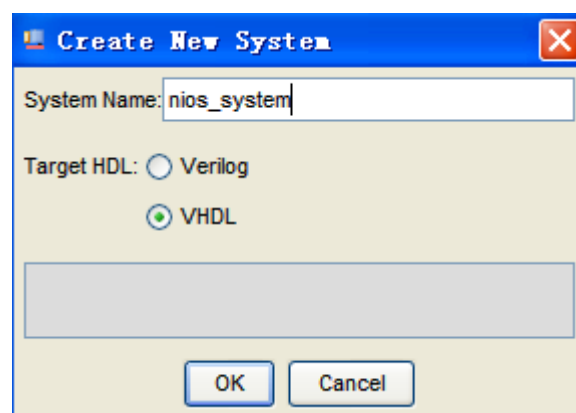
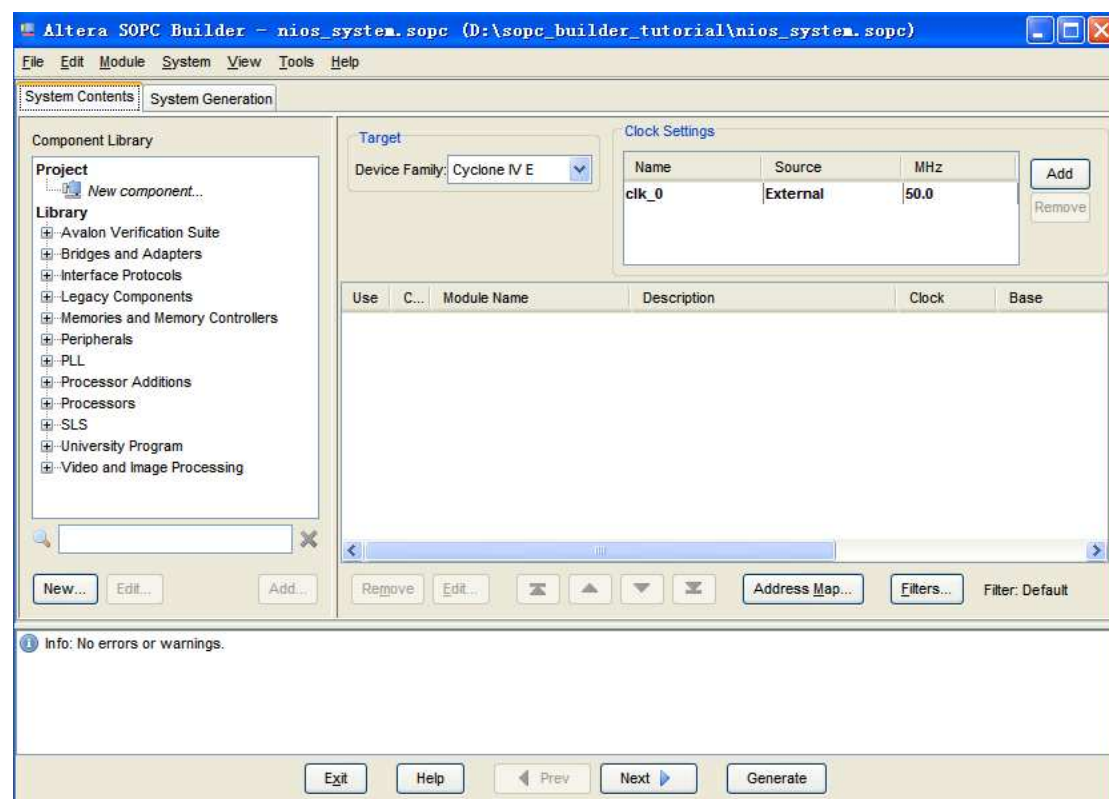
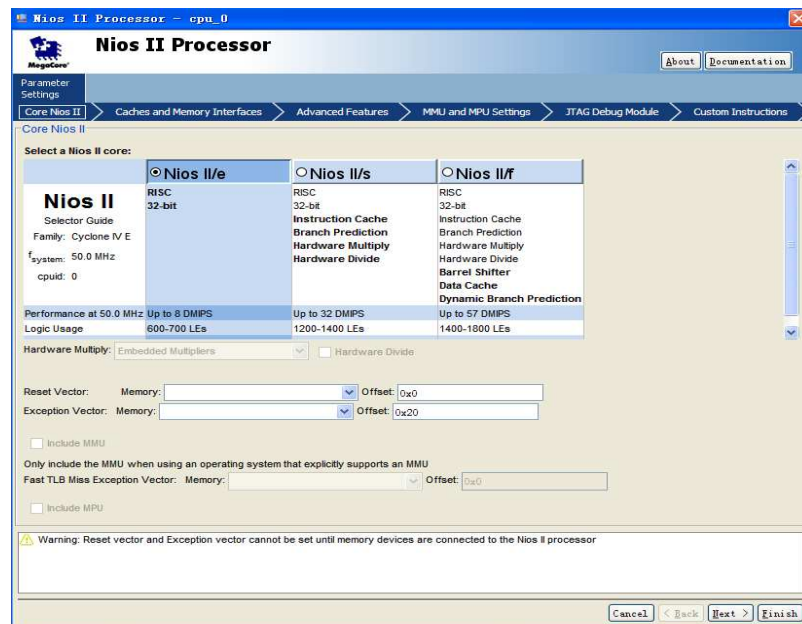

Figure 4. Create a new Nios II system.
Figure 5. The System Contents tab window.
Figure 6. Create a Nios II processor.
2. Select **Tools > SOPC Builder**, which leads to the pop-up box in Figure 4. Enter `nios_system` as the system name; this will be the name of the system that the SOPC Builder will generate. Choose VHDL as the target HDL, in which the system module will be specified. Click **OK** to reach the window in Figure 5.
3. Figure 5 displays the System Contents tab of the SOPC Builder, which is used to add components to the system and configure the selected components to meet the design requirements. The available components are listed on the left side of the window. Before choosing our components, examine the area in the figure labeled Target. A drop-down list is provided that allows some available Altera boards to be selected. It is not necessary to select a board, and since the DE2-115 board is not included in the list leave the selection as Unspecified board. Next, check the setting for the Device Family and ensure that Cyclone IV is selected.
4. The Nios II processor runs under the control of a clock. For this tutorial we will make use of the 50-MHz clock that is provided on the DE2-115 board. As shown in Figure 5, it is possible to specify the names and frequency of clock signals in the SOPC Builder display. If not already included in this list, specify a clock named clk with the source designated as External and the frequency set to 50.0 MHz.
- On the left side of the window in Figure 5 select **Avalon Components > Nios II Processor – Altera Corporation** and click **Add**, which leads to the window in Figure 6.
- Choose **Nios II/e** which is the simplest version of the processor. Click **Finish** to return to the window in Figure 5, which now shows the Nios II processor specified as indicated in Figure 7. There may be some warnings or error messages displayed in the SOPC Builder Messages window (at the bottom of the screen), because some parameters have not yet been specified. Ignore these messages as we will provide the necessary data later. Observe also that a new tab called Nios II More “cpu_0” Settings appears which allows further configuration of the processor - we will not use it.